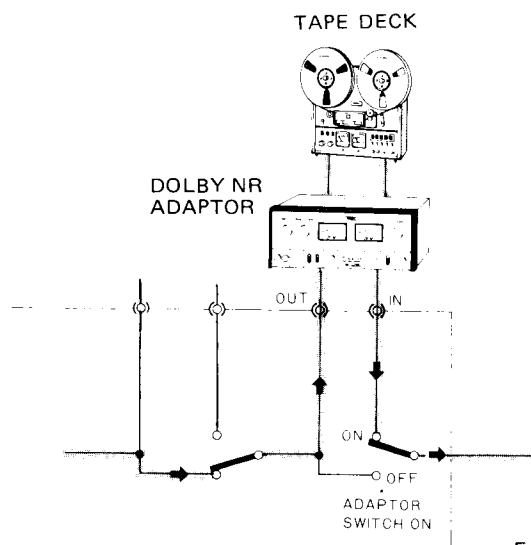

Fig. 26
1. As shown in Fig. 26, connect the Dolby adaptor output jacks to the tape deck recording input jacks (LINE INPUT).